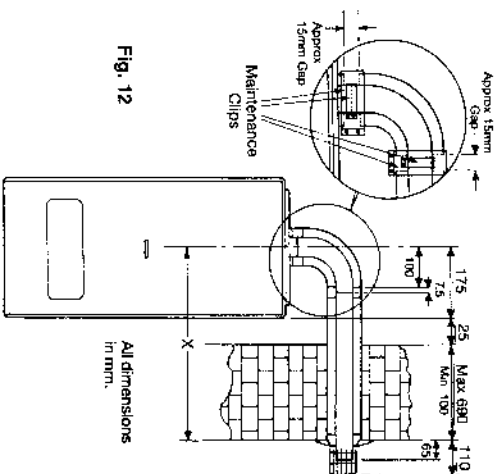
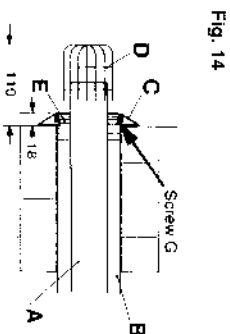

Fig. 12
Fig. 14
5.5.1 Refer to figures 12 - 15.
Hang the boiler on the bracket. Adjust the boiler sideways to its correct position. Locate the small maintenance clip on to the flue elbow (fig 12) and assemble onto the flue outlet on the top of the boiler. Twist the flue bend to the outlet direction required, and tighten the maintenance clip to secure the flue bend in place. Carefully level across to check that the hole through the wall is at the same level as the flue bend.
5.5.4 Measure carefully from the actual face of the outside wall to the centre of the flue bend. (Dimension X on Figs 12 & 13.)
NOTE: The two tubes must be separated by removing screw G (fig 14) before cutting. The outer air tube should also be shortened by the same amount to allow a gap for easy working (see inset on fig 12)
- 5.5.9 Ensure inner and outer terminal tubes are firmly fitted together with screw G (fig 14). Push the terminal tubes through the wall until the face of the outer tube protrudes 18mm from the face of the wall (fig 14). The terminal grill (D) will then protrude 110mm from the wall) face.
- 5.5.16 Check also that the outer end of the flue projects as indicated in fig 14.
- 5.5.19 Seal the peripheral gap around the outer tube with cement or mastic and slip the cosmetic flexible plastic collar (fig 14) item C) into groove on the pipe.
- 5.5.28 Referring to fig 12 assemble a small maintenance clip on the outlet of the boiler flue bend. Push the inner flue tube into clip and tighten clip screws.
- 5.5.30 Referring to fig 12 fit the large maintenance clip into position and tighten clip screws.
- 5.5.34 NOTE: The two tubes must be separated by removing screw G fig 14 before cutting.
- 5.5.41 Referring to fig 12 fit the large maintenance clip into position and secure clip screws.